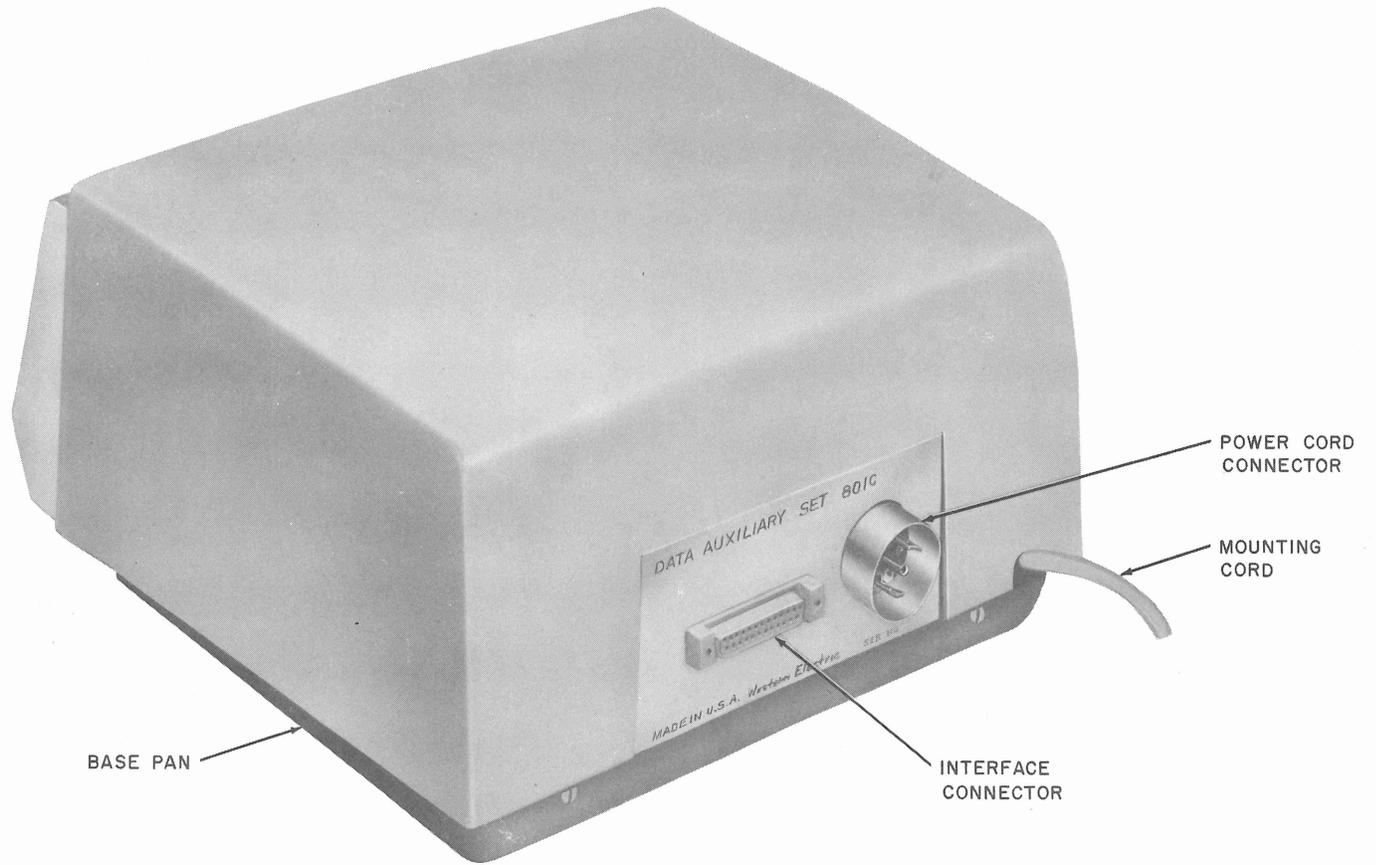

Fig. 3—Data Auxiliary Sets 801C1 and 801C2—Rear View
- 2.04** The cord and connector required for connecting the business machine to the ACU interface are supplied by the customer. This cord should not exceed 50 feet in length and should be equipped with a Cinch DB 19604-432, or equivalent, plug that mates with the KS-19087 L6 connector on the ACU. For the location of this connector, refer to Fig. 3.